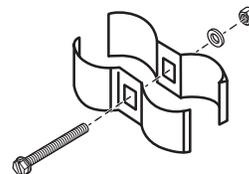

Figure 10
- The plumbing must be self-supporting and secure to avoid movement. A piece of metal or a ground strap is secured to both the inlet and outlet pipes. (See Figure 10)